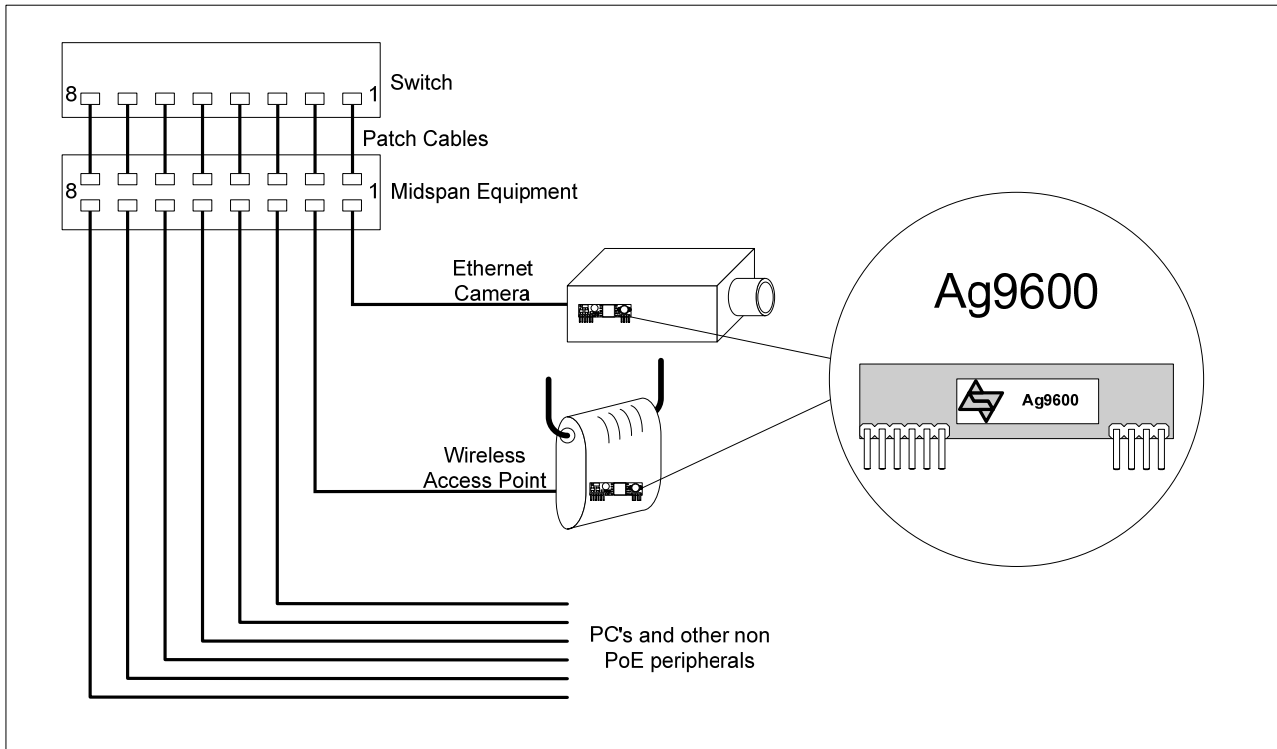

Figure 7: Typical Application
To meet the safety isolation requirements of IEEE802.3af section 33.4.1 a Powered Device (PD) must pass the electrical strength test of IEC 60950 sub clause 6.2. This calls for either a) 1500Vac test or b) 1500V impulse test. The Ag9600 is specified to meet the 1500Vdc impulse test. It is also important that the tracks on either side of the isolation barrier have at least a 3mm clearance, see Figures 7 & 8 and Section 12 for more information.
The Ag9600 can be used in numerous applications, in the example shown in Figure 7: Typical Application, the data outputs from the switch are connected to the inputs of a midspan. The midspan will then add power (to the data) on each output that supports Power over Ethernet (PoE).